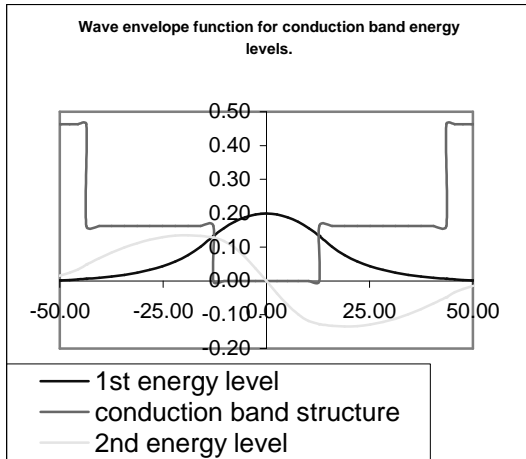
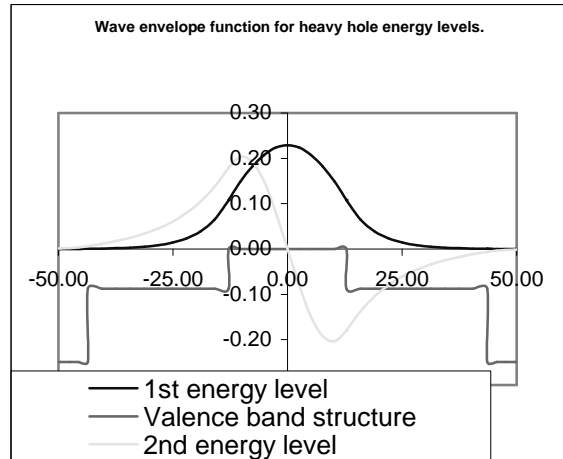
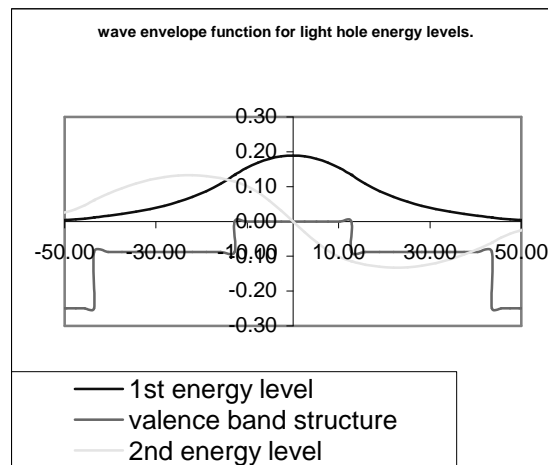

Fig. C.1.2. Wave envelop functions for energy levels in conduction band
Fig. C.1.3. Wave envelop functions for heavy hole energy levels
Fig. C.1.4. Wave envelop functions for light hole energy levels
b) The main output file from this part of GAIN program is energy.dat, containing all the energy levels as shown in Table C.1.5. After the energy eigen values are calculated, the GAIN program asks the user whether he would like to check the wave envelope function or not. We suggest that the user check the wave envelope functions of the first and second energy levels for conduction and valence bands. The plots of the envelope functions are shown in Fig. C.1.2, Fig. C.1.3, Fig C.1.4.